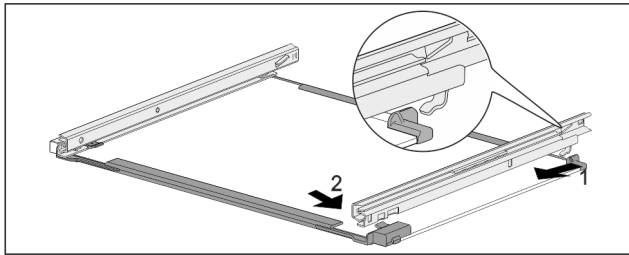

Fig. 180 Glass shelf with rails
- ▶ Hook in rail at the back. Fig. 180 (1)
- ▶ Hook in rail at the front. Fig. 180 (2)